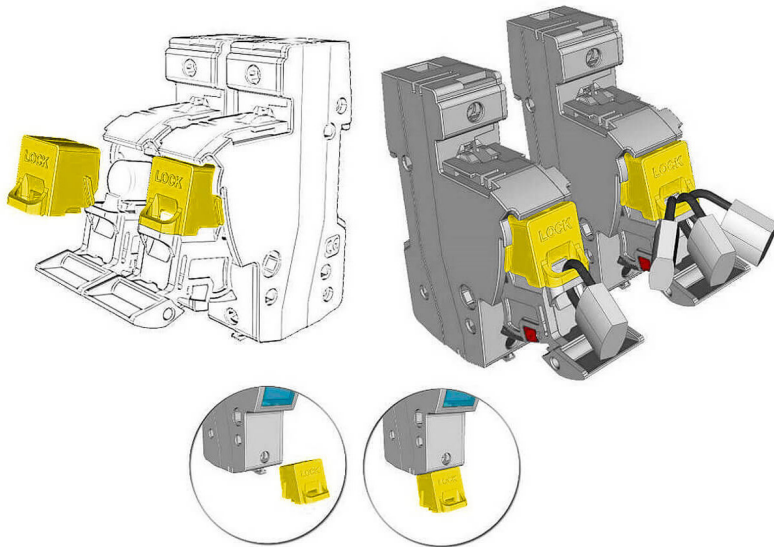

FIG. 4 | Special IP20 protection
* For wires of section $\leq 10\text{mm}^2$ is necessary the use of the accessory to guarantee IP20 in clamps zone. ► **FIG. 4**